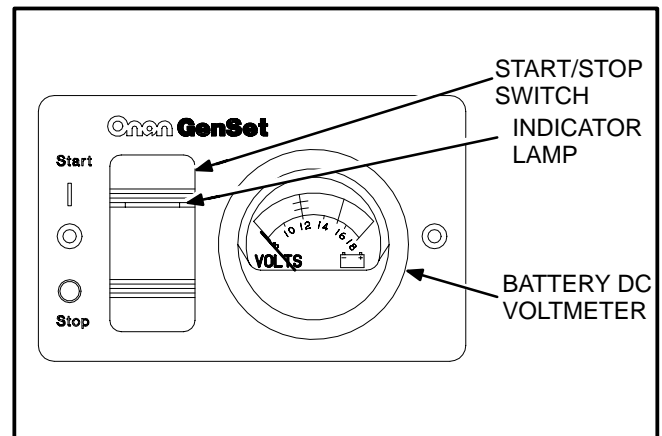

FIGURE 8-8. REMOTE PANEL WITH START/STOP SWITCH AND DC VOLTMETER
- Remote panel with start/stop switch, indicator lamp, and battery DC voltmeter (see Figure 8-8).